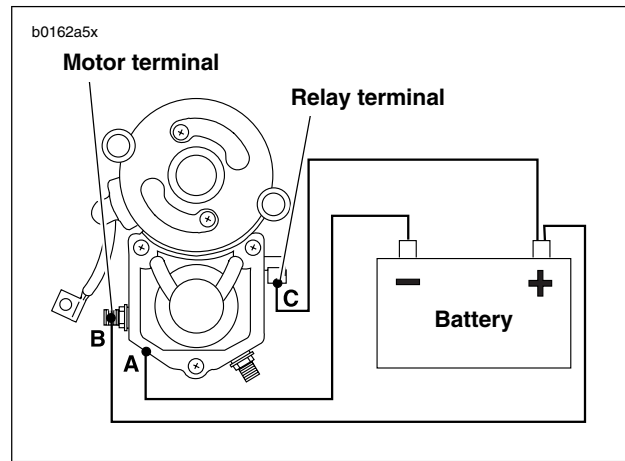

Figure 5-12. Hold-In Test
1. See Figure 5-12. With test leads still connected in the manner specified in the previous SOLENOID PULL-IN TEST, **disconnect solenoid motor terminal/battery negative test lead (B) at negative battery post only; reconnect loose end of this test lead to positive battery post instead.**